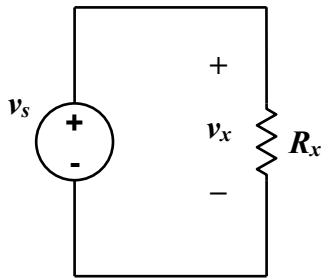

Figure 1.4a
4. Using the proto-board, jumper wires, leads (e.g., banana-to-alligator cables), and the DC power supply (still **turned off**), build the circuit shown in **Figure 1.4a**. Use the 4.7 k Ω resistor for “unknown” resistor R_x .